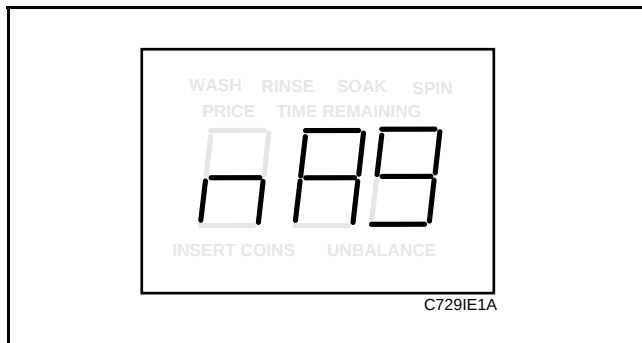

Figure 35
3. Press the DELICATES (+) pad or the COLD (-) pad to scroll through the programmable options until “nAg” appears in the VFD. See **Figure 35**.